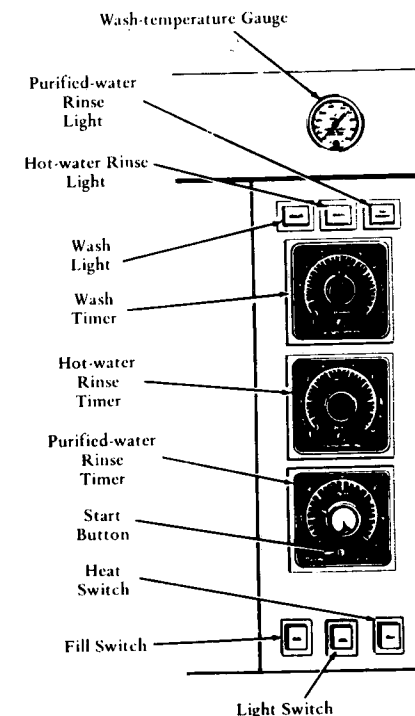

Figure 2-1. CONTROL PANEL
1. Turn main disconnect switch (building supply) ON ... if either of the indicating lights (FILL or HEAT) should glow, press the (lighted) button to turn it OFF (Fig. 2-1).